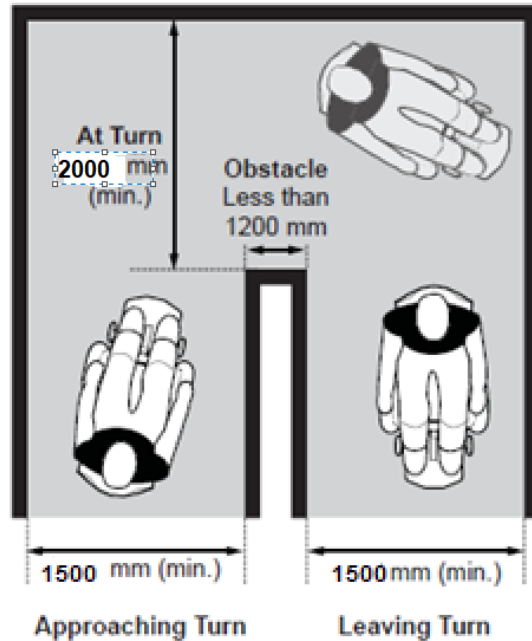

Figure 104: 180 Degree Turn Around Obstacle Less Than 1200 mm
- 45°: unobstructed maneuvering space 1500 mm × 1500 mm (See Figure 104)
- 180° turn: minimum 2000 mm clear space (See Figures 104)